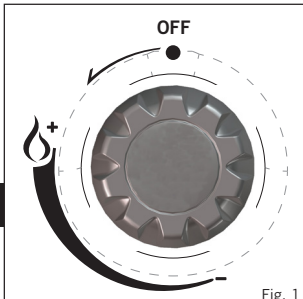

Fig. 1
- Before connecting the gas supply, firstly check that the appliance valve is in the off position by turning the control knob fully clockwise (See Fig. 1). Making sure that the gas cartridge is kept upright, screw the cartridge into the valve in a clockwise direction until it is fully engaged (Fig. 3a), hand-tighten only. If the cartridge is overtightened, it may damage the cartridge valve.
- To light the appliance manually, apply a flame to the burner using a BBQ Lighter, turn the appliance control knob slowly in an anti-clockwise direction until the burner lights (Fig. 1).